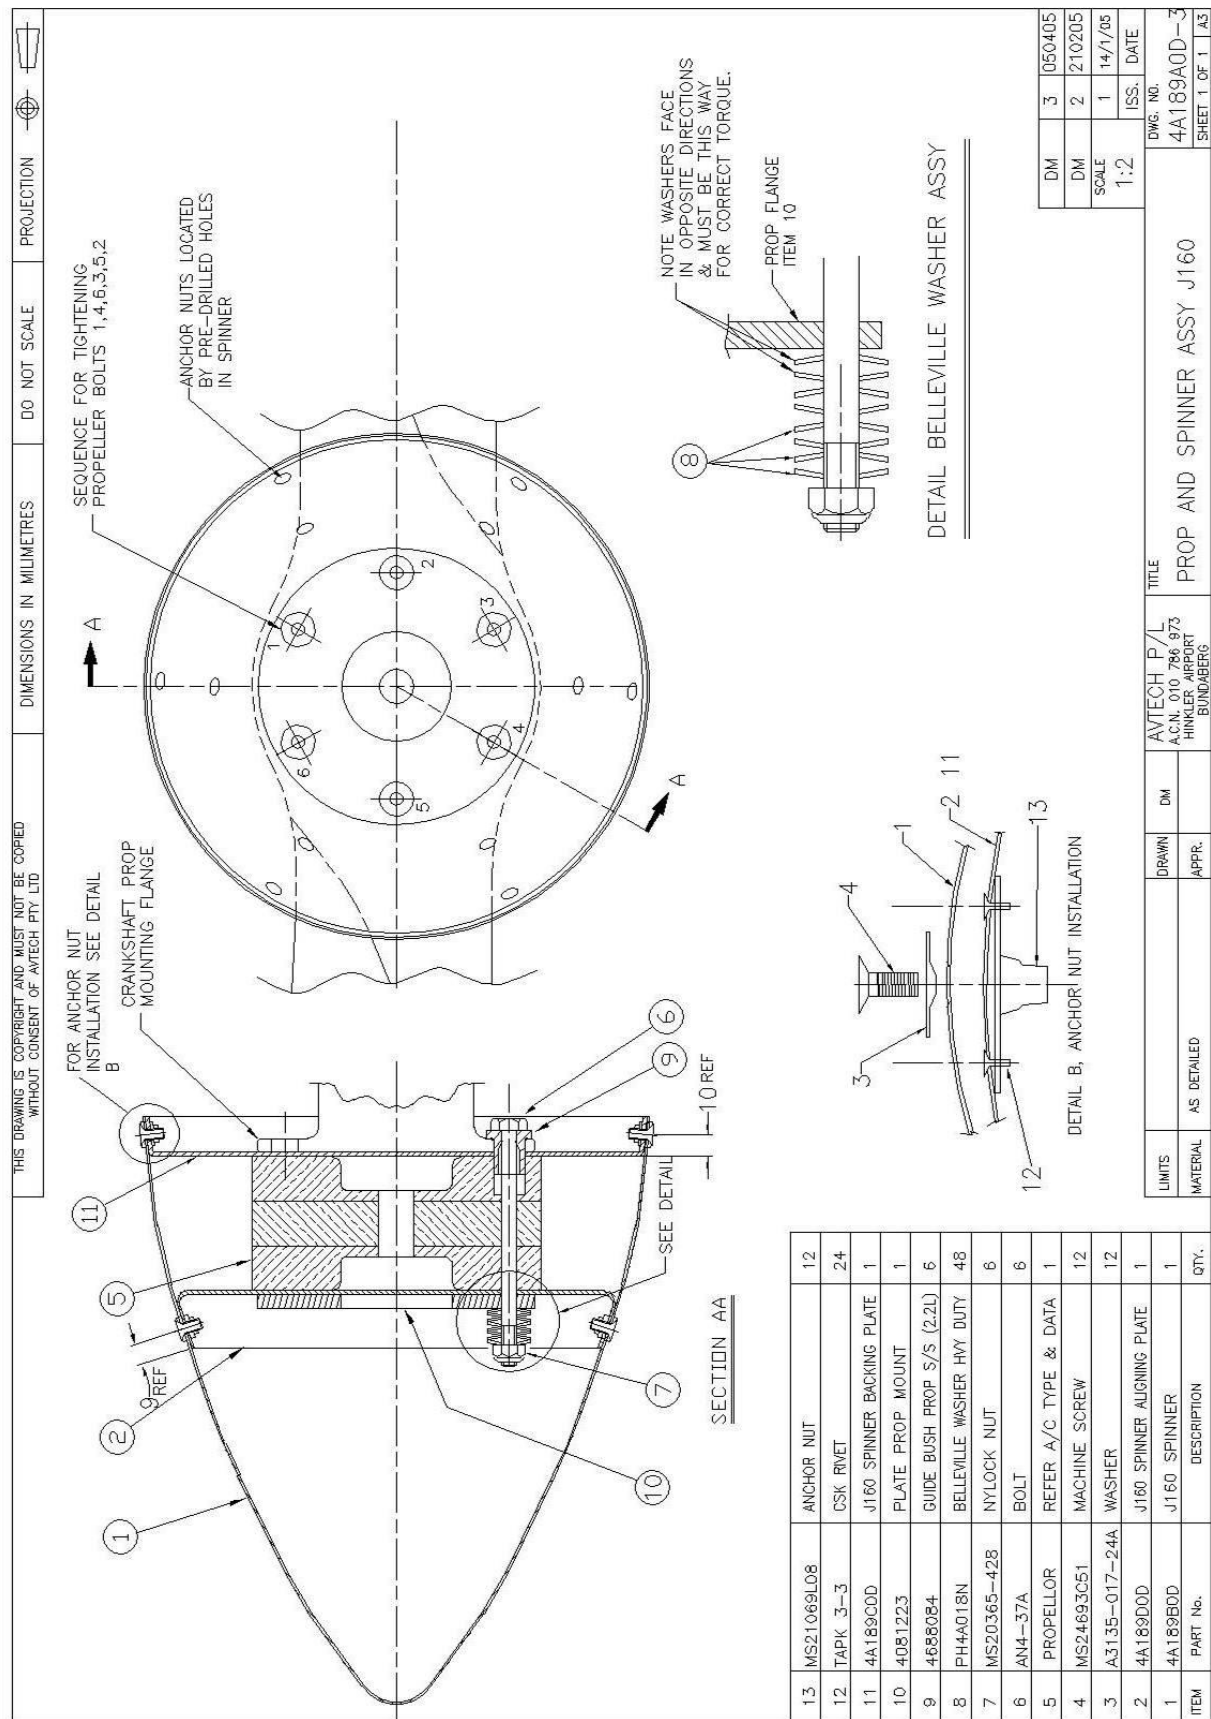

Figure 41. Jabiru Propeller & Spinner Installation
- Belleville washers may be used as shown in Figure 41 to allow for expansion and contraction of Jabiru wooden propellers.